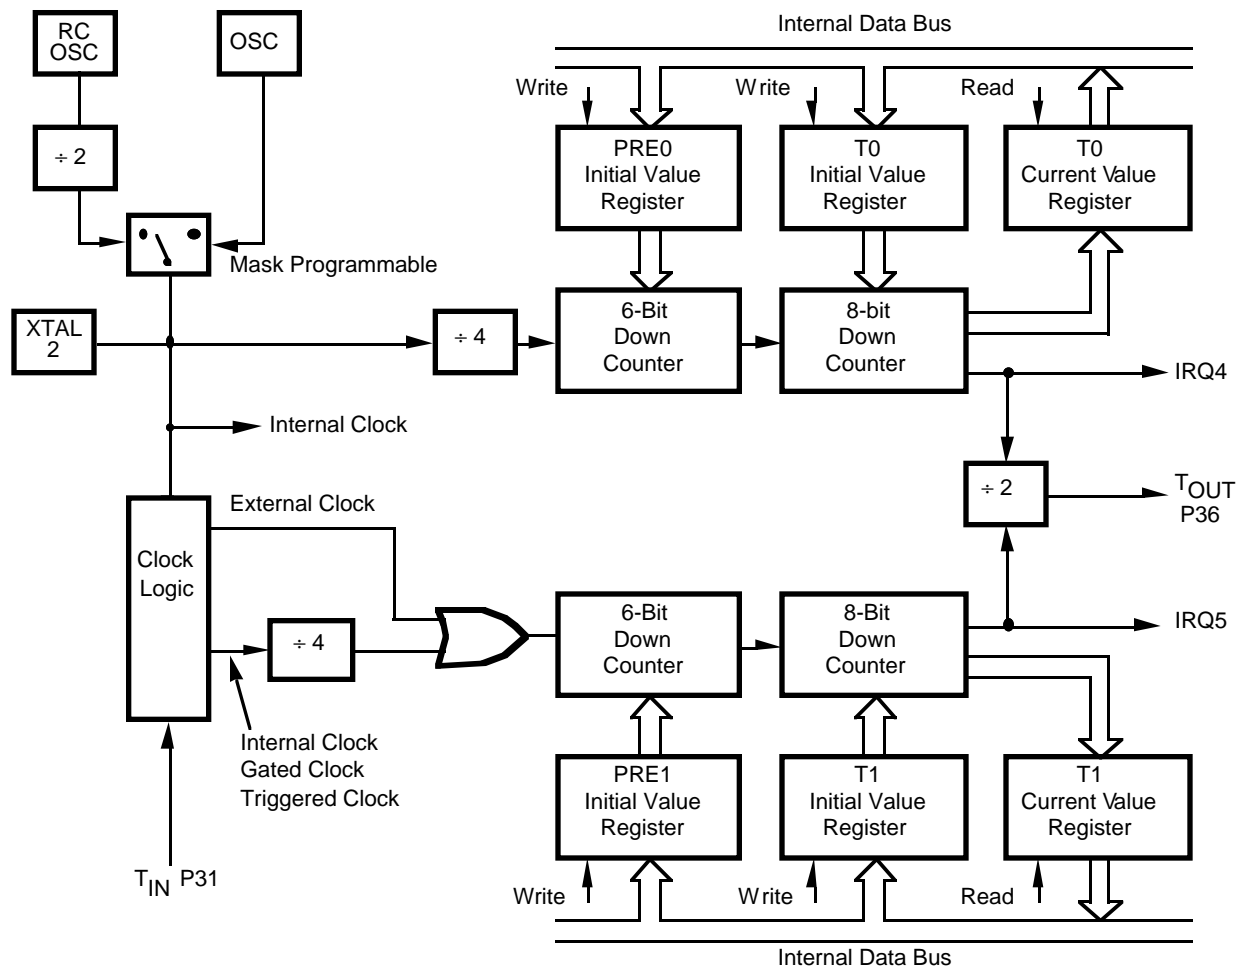

Figure 12. Counter/Timers Block Diagram
**Counter/Timers.** There are two 8-bit programmable counter/timers (T0-T1), each driven by its own 6-bit programmable prescaler. The T1 prescaler can be driven by internal or external clock sources, however, the T0 prescaler is driven by the internal clock only (Figure 12).